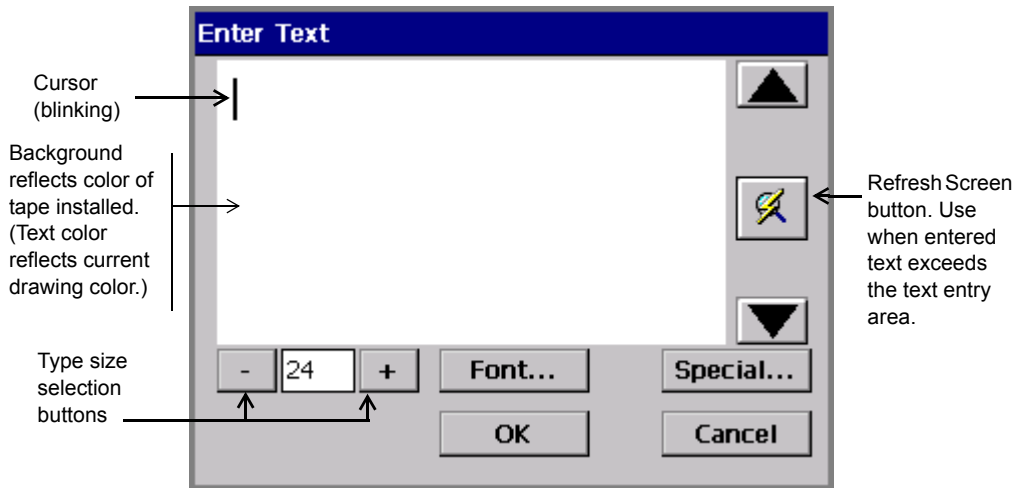

Figure 7-3. The Enter Text screen.
2. Press **Font** on the **Enter Text** screen, shown in Figure 7-3 on page 7-5.
1. On the **Enter Text** screen (Figure 7-3), choose **Special**.